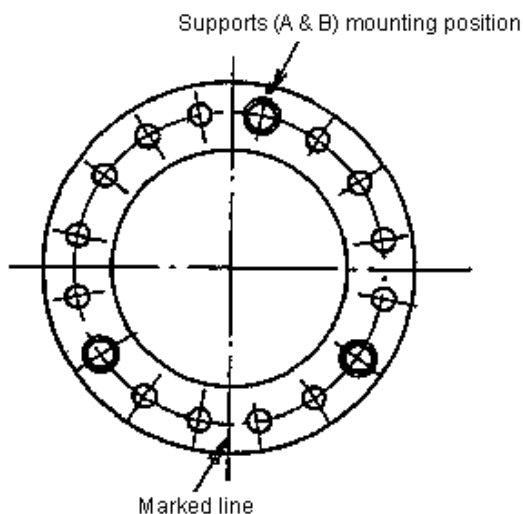

Figure 10-2: Electron Gun Flange Top View
2. Remove three of the bolts as shown in **Figure 10-2** and attach supports (A) and (B) as shown in **Figure 10-3**.